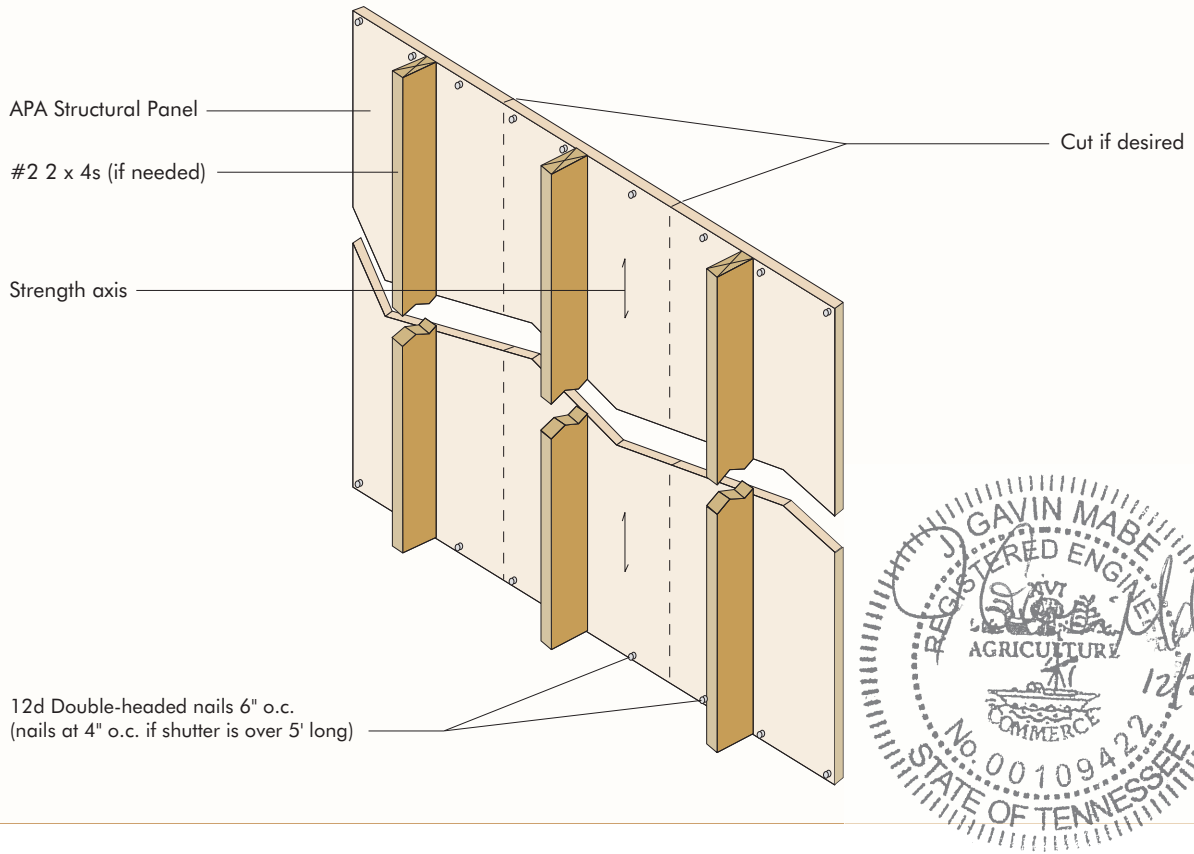

FIGURE 1B
4. Nail shims to the framing with 12d nails. Use 16d nails for shims over 3/4 inch thick. For spans up to 5 feet, space the nails 6 inches o.c. at each shim. For spans over 5 feet, space nails 4 inches o.c. at each shim. (Figures 1B and 1C)
5. Attach the shutters with double-headed nails for ease of later removal. (Figures 1B and 1C) Use 12d nails for shutters up to 3/4 inch thick and 16d nails for shutters over 3/4 inch thick. For spans up to 5 feet, space the nails 6 inches o.c. at each end of the shutter panel. For spans over 5 feet, space nails 4 inches o.c. at each end of the shutter panel. Nailing the panel on all four sides, instead of just the two ends, will further limit deflection and maximize strength.